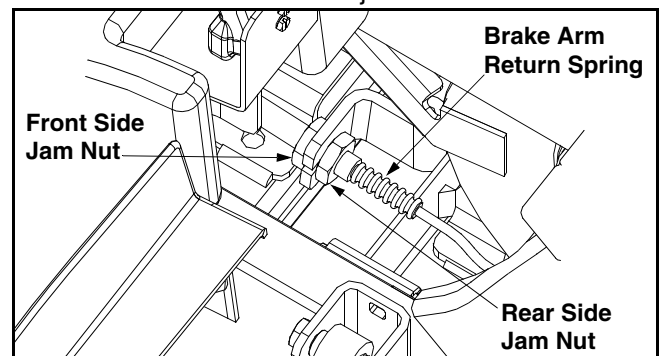

Figure 20
- Disconnect brake arm return spring. See Figure 20.